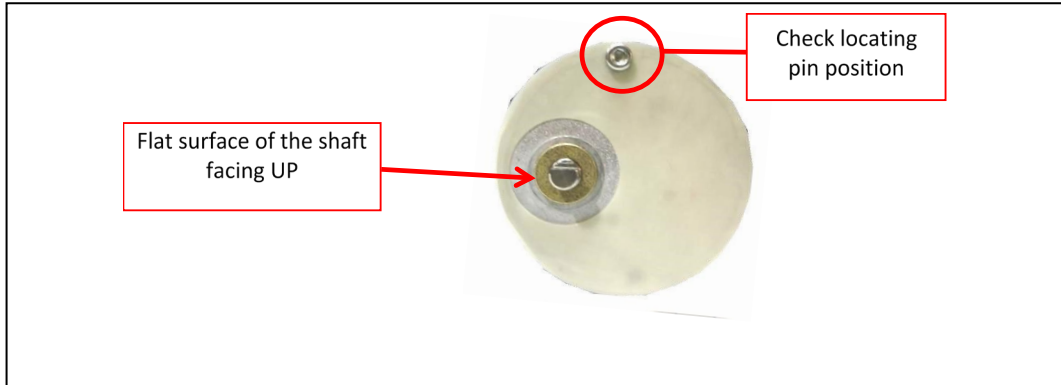

Figure 2. Shaft Position
3. Check the position of the flat surface of the shaft relative to the locating pin. The flat surface should be oriented facing up, (refer to the Figure 2) ready to be inserted in the worm gear.